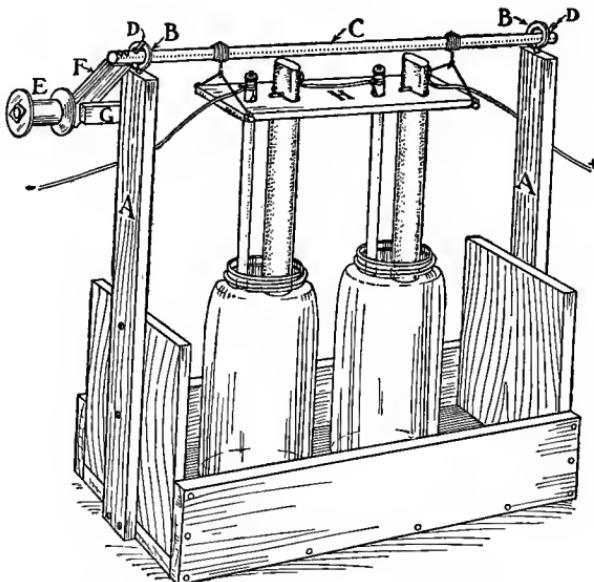
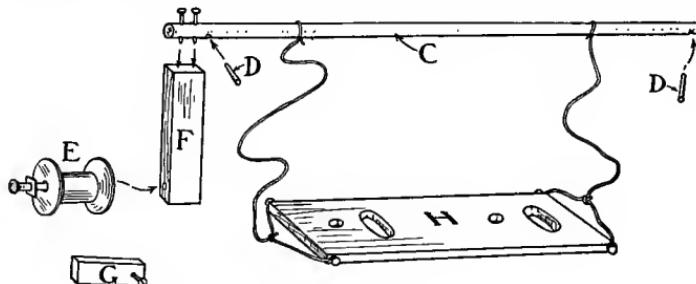

FIG. 239. — A Home-Made Plunge Battery.
FIG. 240. — Detail of Drum and Crank for Lifting Battery Elements.
A Plunge Battery consists of one or more cells arranged in a framework provided with a drum and crank for raising the elements out of the battery fluid. By this arrangement, the elements are protected from the fluid while the battery is not in use. It is only necessary to remove the elements from the battery fluid when a bi-chromate or similar strong acting fluid is employed. Figure 239 shows a home-made plunge battery.
**A Home-Made Plunge Battery** (Fig. 239). The plunge battery illustrated contains two bi-chromate cells, with an arrangement by which the elements of the cells can be raised out of, and lowered into, the solution.
A grocery box can be cut down to a convenient size for the rack. Nail the uprights *A* (Fig. 239) to the ends of the rack, to support the winding drum *C*, and make them of the right length so *C* will be the length of the carbons above
the battery jars. Screw screw-eyes into the tops of uprights *A* for drum *C* to turn in (*B*, Fig. 239), and drive the
wooden pins *D* (Fig. 240) through drum *C*; near the ends, to prevent the drum from slipping through the screw-eyes.
A spool forms the crank handle *E* (Fig. 239). This is pivoted with a nail to the crank *F*, and the end of the drum is nailed to the end of the crank (Fig. 240). The button *G* is screwed to one edge of the upright *A* at the crank end, and, when turned to the position shown in Fig. 239, checks the crank. The board *H* supports the battery elements, and the raising cord is attached to nails driven into its edges and to drum *C*.